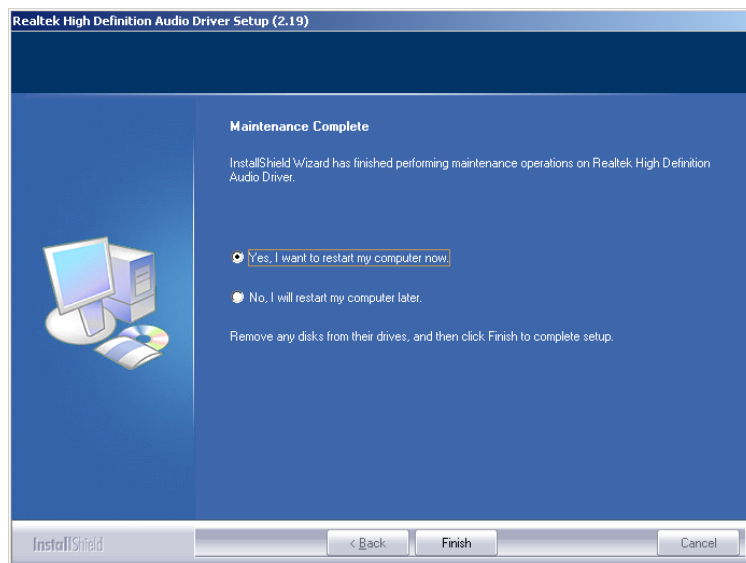

Figure 6-23: Restart the Computer
Step 8: After the driver installation process is complete, a confirmation screen appears (Figure 6-23).